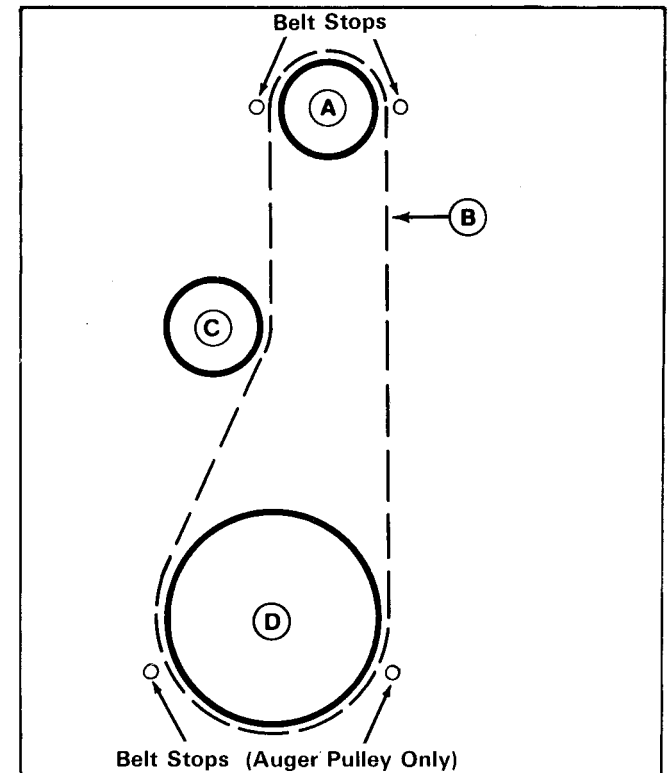

Figure 20. Belt Pattern (as viewed from front of snowthrower)
5. Reverse the procedure to install the belts. Be sure there are no twists and the belts are properly seated in the grooves. Adjust the belt stops so there is 1/8" (3 mm) between belt and stop. The pattern for both belts is shown in figure 20.